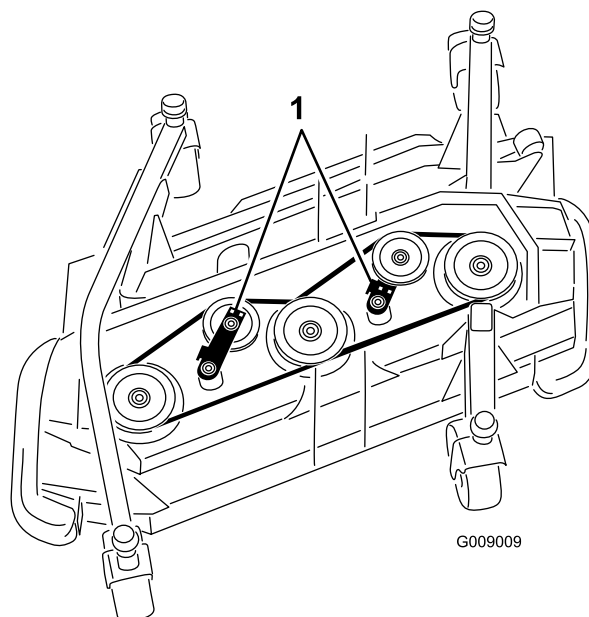

Figure 127
5. Using a ratchet wrench or similar tool, move the idler pulleys away from the drive belt to release the belt tension and allow the belt to slip off the pulleys (Figure 127).